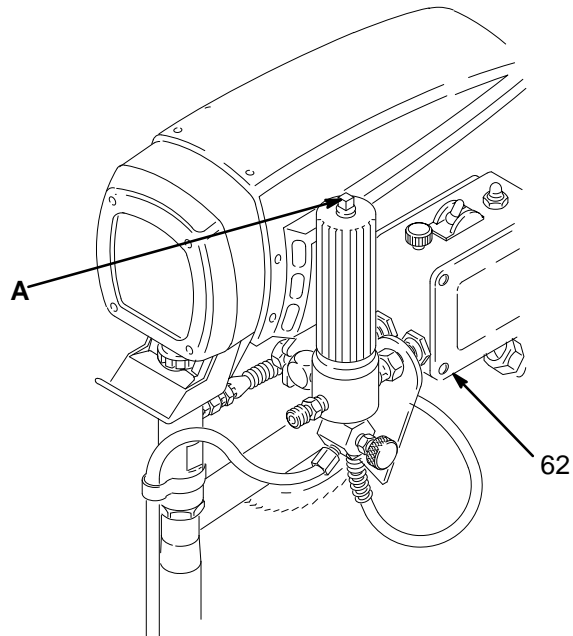

Fig 30–1
2. See the above list of tools and equipment needed. Remove the plug (A) from the top of the fluid filter and install the fluid-filled pressure gauge. See Fig 30–1. Connect the gun to the **new** test hose and connect the hose to the sprayer outlet.
3. Remove the pressure control cover (62).